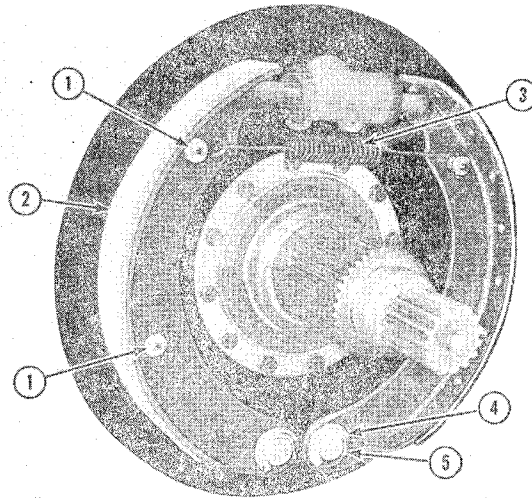

Figure 13-3
With a brake spring pliers, remove the brake shoe return spring (3, Fig. 13-3). Remove the "C" washers (5) and flat washers (4). Remove the "C" washers (1) and flat washers. Remove the brake shoes (2).
Install the brake shoes (2, Fig. 13-3). Install the washers (4) and "C" washers (5). Install the washers (1) and "C" washers. Using a brake spring pliers, install the spring (3).